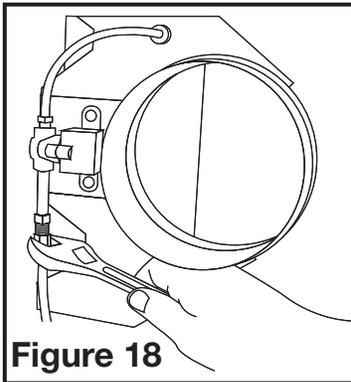

Figure 18
3. Make the tube connection to the humidifier using an adjustable wrench (not supplied) to tighten the nut (Figure 18).